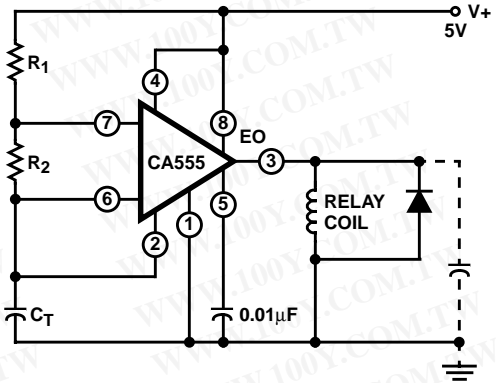

FIGURE 4. REPEAT CYCLE TIMER (ASTABLE OPERATION)
3. The threshold current will determine the sum of the values of  $R_1$  and  $R_2$  to be used in Figure 4 (astable operation); the maximum total  $R_1 + R_2 = 20\text{M}\Omega$ .
Figure 4 shows the CA555 connected as a repeat cycle timer. In this mode of operation, the total period is a function of both  $R_1$  and  $R_2$ .